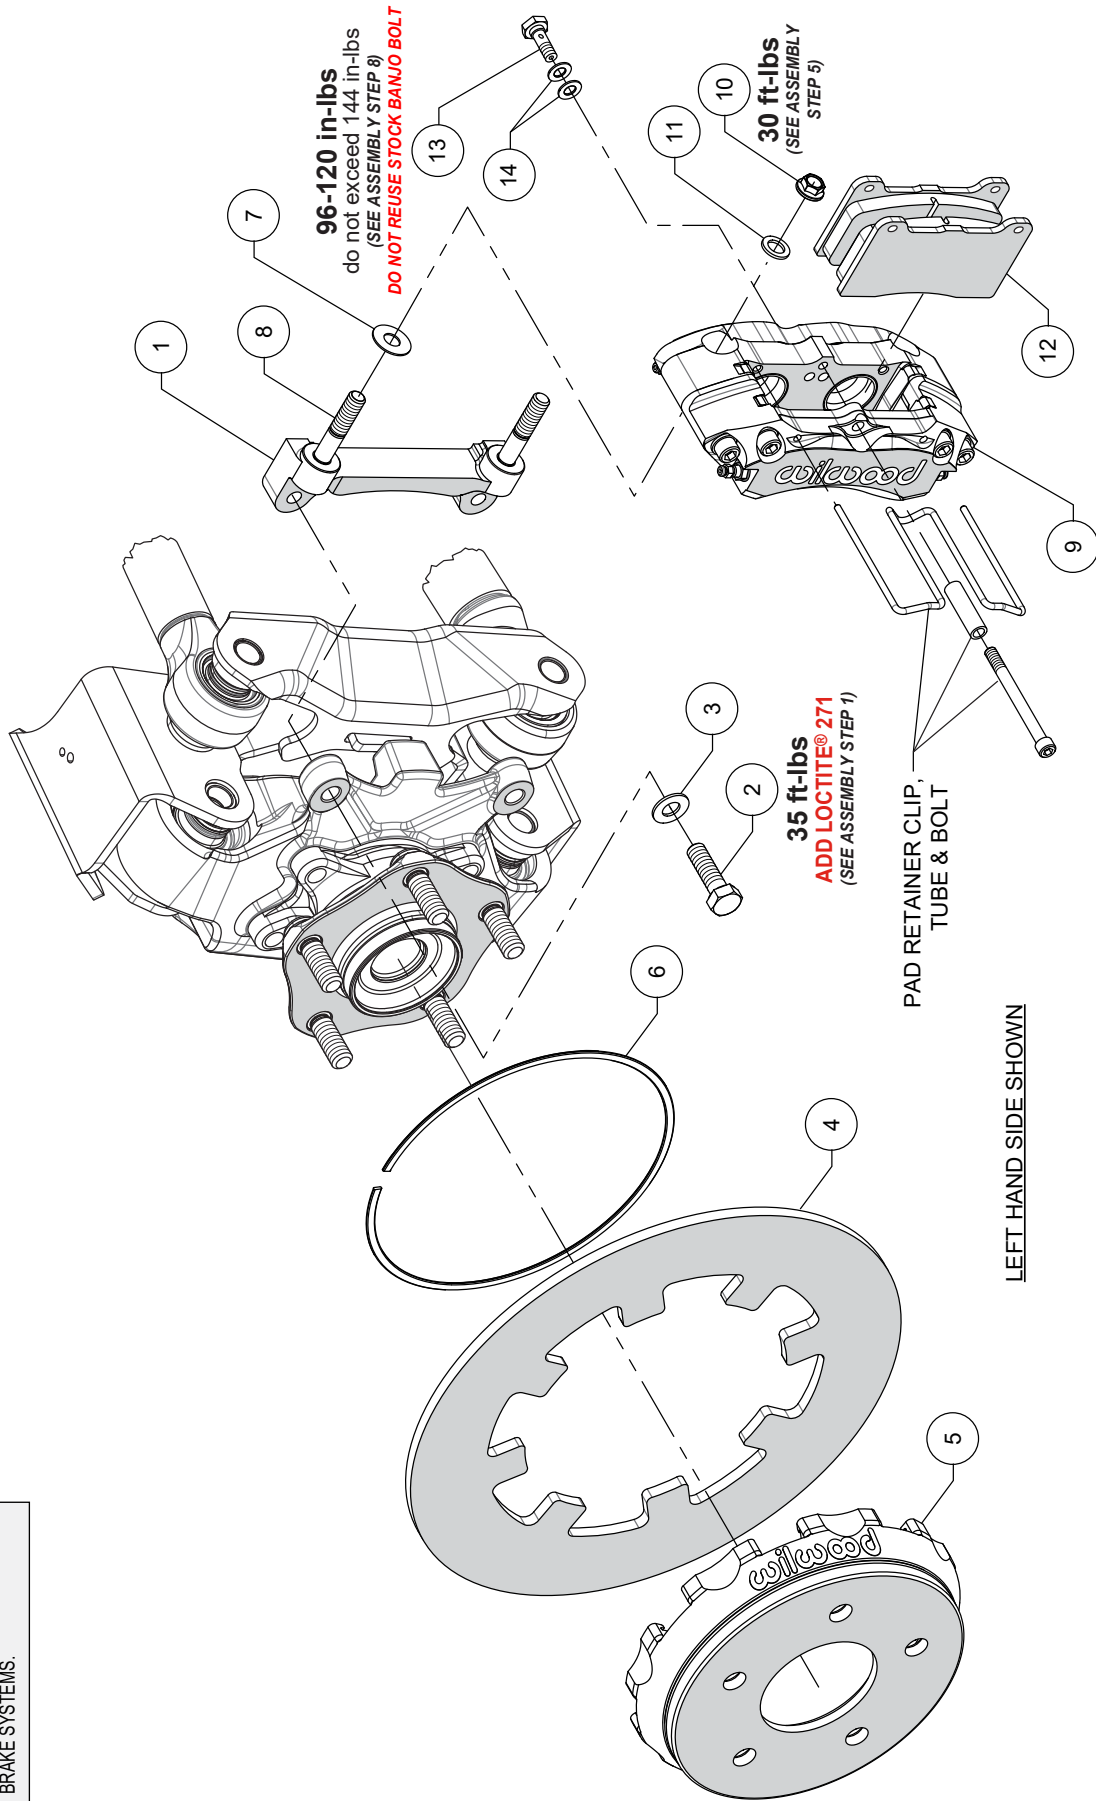

Figure 1. Typical Installation Configuration
NOTE: Numbers in parenthesis refer to the parts list and Figure 1 on the preceding pages.
STEP 1 The caliper mount bracket (1) should initially be installed with clean, dry threads on the mounting bolts. Orient the bracket, as shown in Figure 1 and Photo 1, and install using bolts (2) and washers (3). **NOTE:** The bracket must fit squarely against the mount bosses on the upright. Inspect for interference from casting irregularities, machining ridges, burrs, etc. Remove bolts (2) one at a time, apply red *Loctite*® 271 to the threads and torque to value shown in Figure 1.
STEP 2 Position the rotor (4) onto the hat (5), making sure the rotor lugs fit into the recesses of the hat, as shown in Photo 2.
STEP 3 Secure rotor to the hat using the snap ring (6) by installing the ring into the groove in the hat, as shown in Photos 3 and 4. **Carefully inspect snap ring to ensure complete engagement in the groove.**
STEP 5 Initially place one .035" thick shim (7) on each stud (8) between the caliper (9) and the bracket (1), as shown in Figure 1 and Photo 6. Mount the caliper (9) onto the bracket (1) using lock nuts (10) and washers (11), Figure 1. Temporarily tighten the lock nuts. **NOTE:** Adding or subtracting shims (7) on stud (8) will affect caliper-to-wheel clearance depending on the type of wheels used. Some wheels may be closer at the top of the caliper and some at the bottom. Carefully install wheel, torque lug nuts to manufacturer's specification and check that there is adequate caliper-to-wheel clearance. If more clearance is needed, add or subtract shims (7) until proper clearance is achieved. **CAUTION:** Ensure that stud (8) completely passes through nut (10) with use of shims (7). Once there is sufficient caliper-to-wheel clearance, remove wheel and torque lock nuts (10) to value shown in Figure 1.
STEP 6 Remove the pad retainer bolt, tube, and clip from the caliper (9). Insert the brake pads (12) into the caliper with the friction material facing the rotor, as shown in Photo 7. Secure the brake pads in place with the pad retainer clip, then the tube, and bolt, Photo 8.
STEP 8 Attach brake line to caliper. Connect OEM brakeline to caliper using banjo bolt (13) and crush washers (14). Do not use lubricant or thread sealant on banjo bolt (13). Torque to minimum value shown in Figure 1. Check for leakage, increasing torque only to stop leakage without exceeding maximum specification. Replace crush washers and banjo bolt whenever reassembly is required. **Ensure hoses are routed to prevent contact with moving suspension, brake or wheel components.**